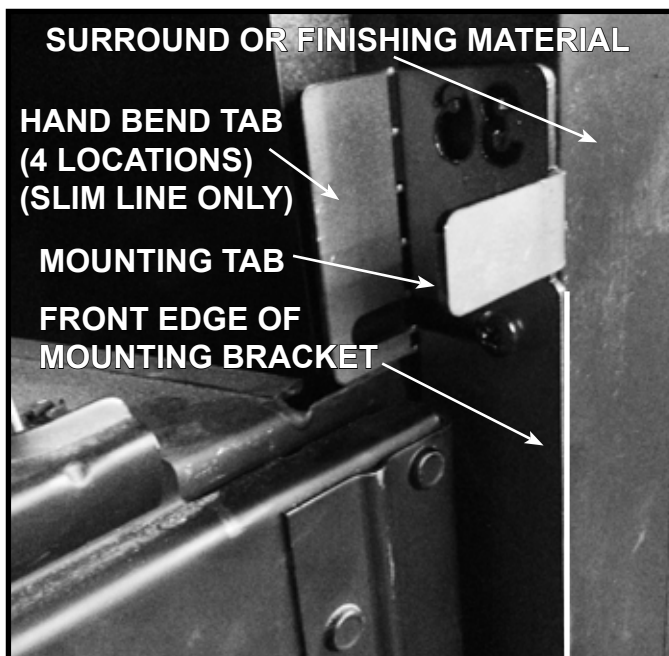

Figure 6. Attach Mounting Brackets (SL Shown)
5. Attach mounting brackets to appliance using the four mounting screws. Locate the laser-cut number (28, 32, 36, or 42) on the bracket which represents the size of the decorative front. This marking also indicates the top of the bracket. Install the bracket so that the front edge of the bracket sits flush with the desired depth of the decorative front. Mounting tabs should extend at least 1/8 inch past desired depth. See Figure 6.